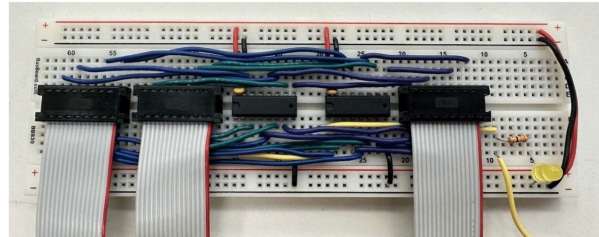

Figure 14: The finished bus MUX with ribbon cables attached.
- The result should look like Figure 14.